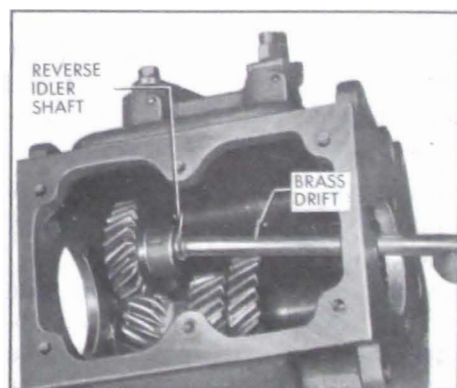

Figure 4-23—Removing Reverse Idler Shaft
11. Remove first-reverse shift shoe from shift shaft. Drive reverse idler shaft out of rear of case using a brass drift. See Figure 4-23. Remove reverse idler gear.